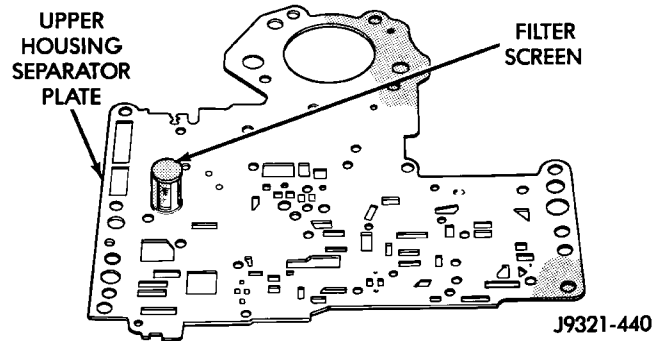

Fig. 77 Separator Plate Filter Screen Installation
- (2) Install filter screen in upper housing separator plate (Fig. 77).